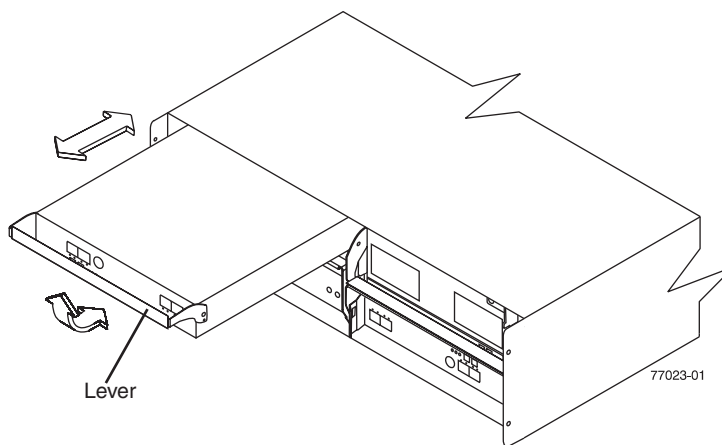

Figure 45. Removing and replacing an Environmental Services Monitor (ESM)
8. While squeezing the latch, pull the lever open 90° (so that the lever is horizontal). Pull the lever away from the chassis to remove the ESM from the EXP810 midplane, as shown in Figure 45.